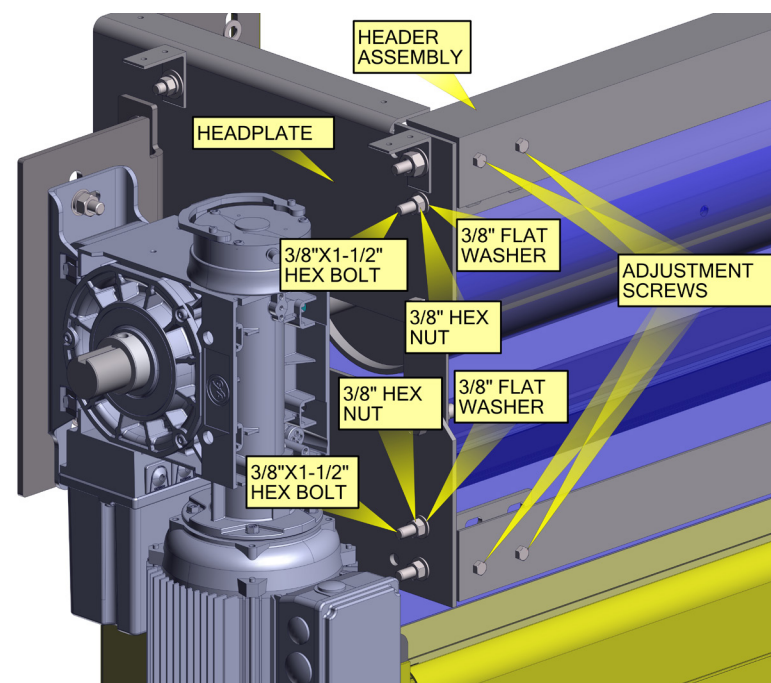

Figure 18
- Align the header assemblies, as shown in **Figure 18** and install using the attachment hardware from the hardware bag.